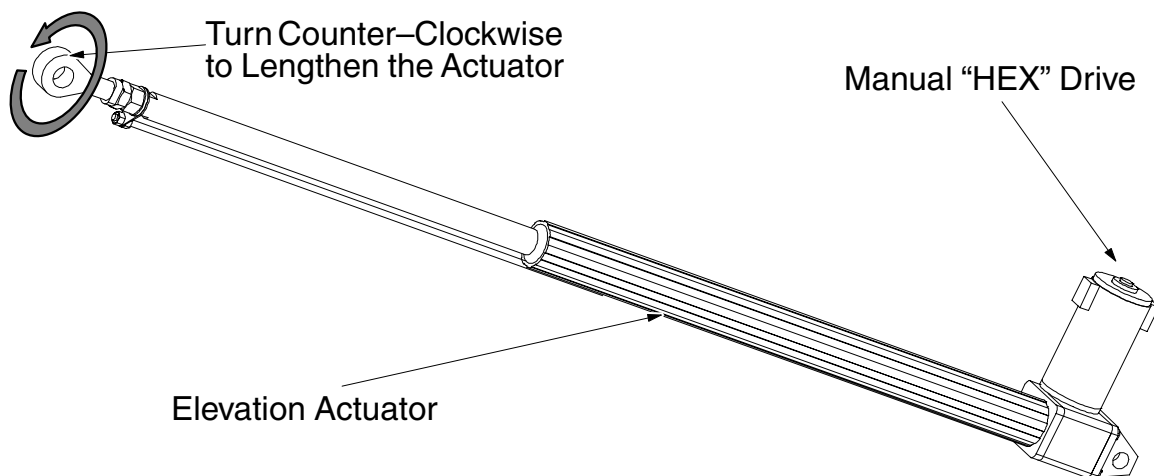

Figure 12-4 Adjusting Elevation Actuator Length
- 7.) When the table is fully elevated, the Actuator is in tension due to the force produced by the gas springs. The table must be elevated further with the hex drive on the end of the motor, see Figure 12-4, on page 800 (Observe arrow marking on motor cover end plate for "Up" direction). Raise the table until the Actuator is unloaded, which occurs when the Elevation Actuator can be
- 12.) Adjust the length of the new Elevation Actuator to be the same as the one just removed. The easiest way to adjust the length is to turn the rod end of the Elevation Actuator counter clockwise. See Figure 12-4, on page 800.